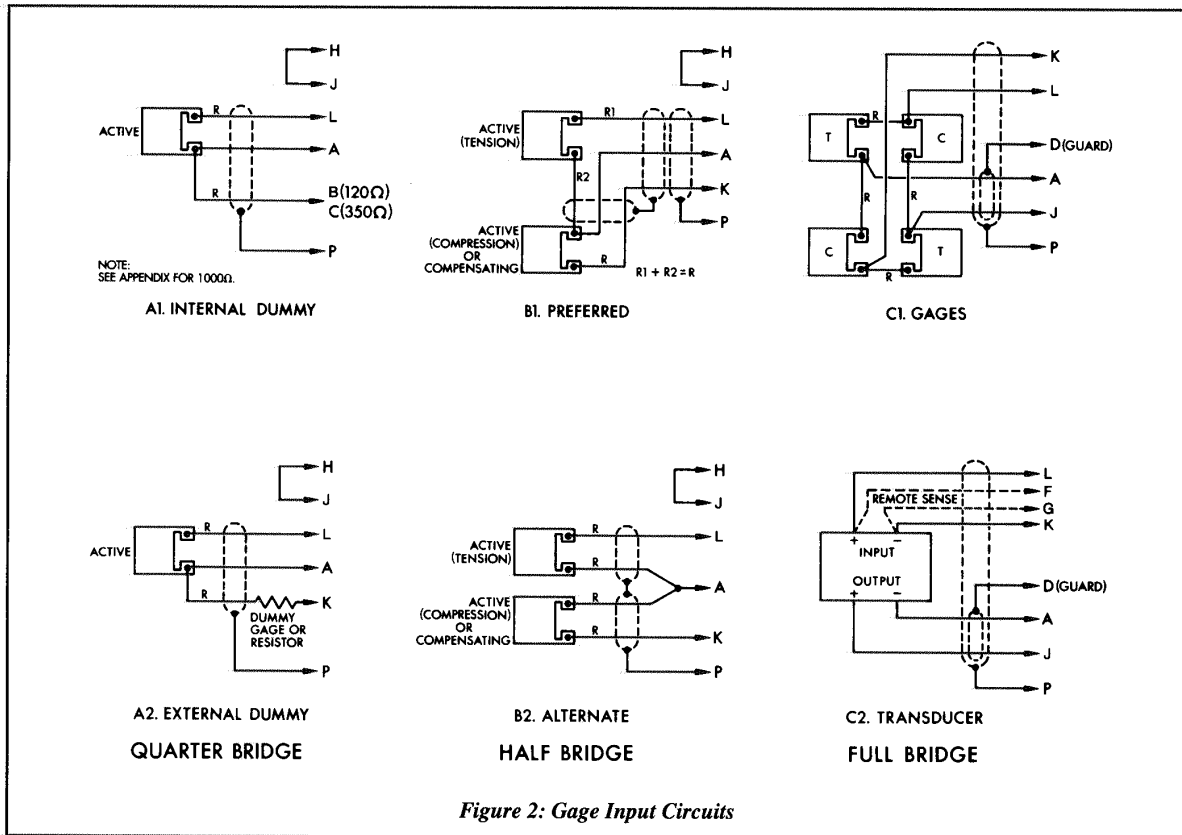
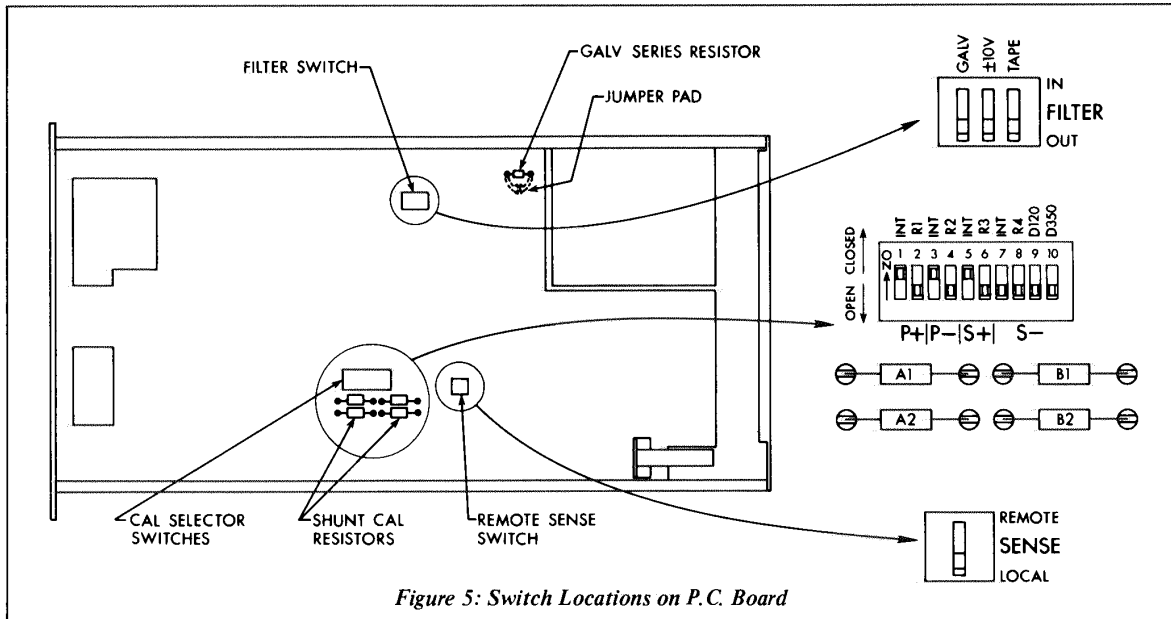

Figure 2: Gage Input Circuits
Figure 5: Switch Locations on P.C. Board
- 4.2b The basic input arrangements are shown in Figure 2. Note that, except when using an external full bridge, there must be a jumper in the input plug connecting pins H and J; this connects the midpoint of the internal half bridge to the S+ amplifier input. Precision 120 Ω and 350 Ω dummy gages are provided in each Model 2310. If using a quarter bridge with a resistance other than 120 Ω , 350 Ω , or 1000 Ω , use circuit A2 in Figure 2. For 1000 Ω quarter bridges, see Appendix.
- 4.2c When using an external full bridge (especially a precision transducer), it may be desirable to employ the remote-sense circuitry provided in the 2310 to maintain constant excitation at the transducer regardless of lead resistance. To enable this circuit, open the right side-cover of the 2310 and raise the small red SENSE switch to REMOTE (see Figure 5). Connect the sense leads between the transducer and pins F and G of the INPUT plug as shown in Figure 2, C2.
- 4.2d If it is desired to employ shunt-calibration across one of the external bridge arms, additional wiring is required to achieve maximum accuracy (see 5.0 Shunt Calibration for details). However, for half- or quarter-bridge inputs, shunting the internal dummy half bridge or dummy gage is normally recommended; neither of these circuits requires additional wiring from that shown in Figure 2.
- a) In the quarter-bridge circuit, *always* use the three-leadwire circuit shown in Figure 2, rather than the more obvious two-leadwire circuit.
The series resistor value is never critical; any value within $\pm 25\%$ of the above solution is adequate. The series resistor is most conveniently mounted between the GALV RES sockets on the 2310 p.c. board (first remove the solder from the p.c. board jumper pad just below the sockets with a hot soldering iron). See Figure 5.
the GALV RES sockets on the 2310 p.c. board (first remove the solder from the p.c. board jumper pad just below the sockets with a hot soldering iron). See Figure 5.
The filter can affect any one or all of the three outputs. To select the outputs to be filtered, open the right side-cover of the 2310 and note the three toggles on the red FILTER switch (near the top of the p.c. board) marked GALV, $\pm 10V$, and TAPE; this switch is shown in Figure 5. Any toggles in the IN (up) position indicate that that output will be filtered when any FILTER button other than WB is depressed; outputs for which the toggle is in the OUT (down) position will still be operating at wide-band.